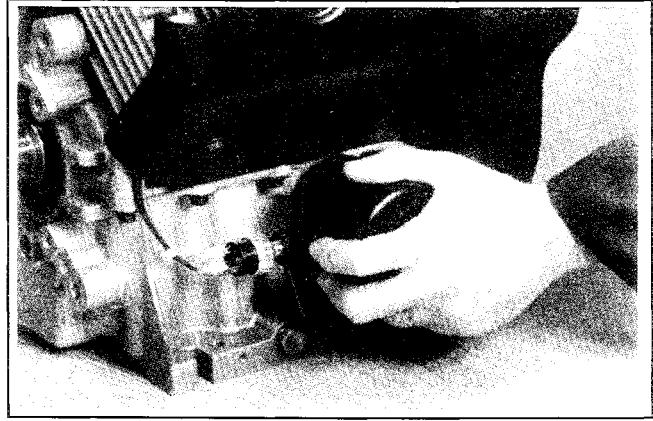

Figure 6-6. Hand Tighten New Filter in Clockwise Direction.
2. Hand start the switch into the tapped hole in the oil filter adapter. See Figure 6-6.